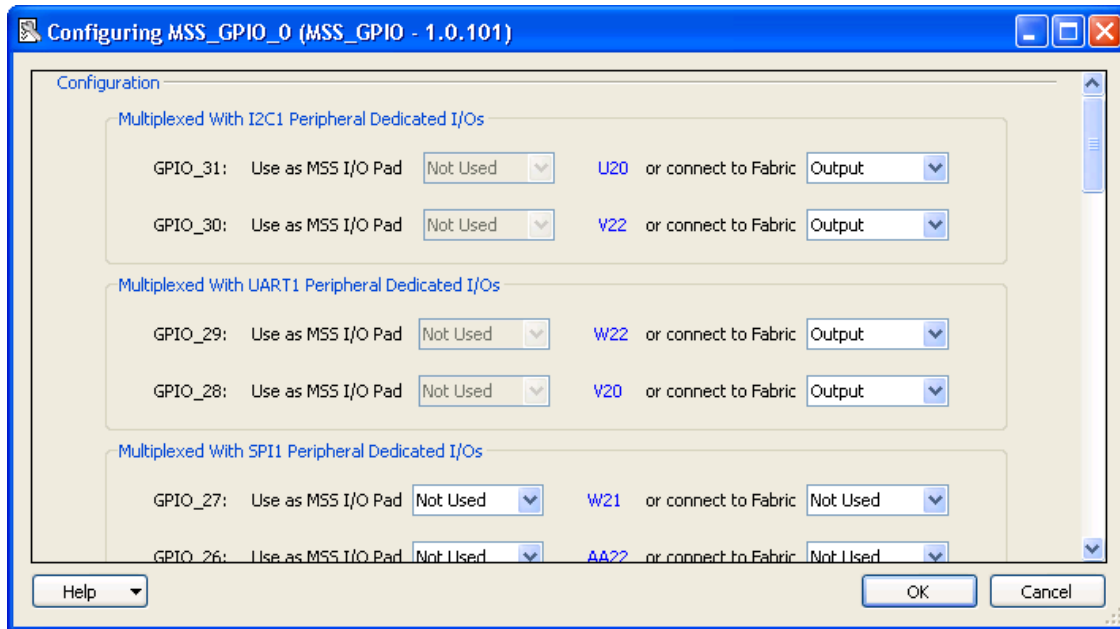

Figure 52 · Configure MSS\_GPIO\_0
1. Double-click the **GPIO block** in the **MSS component**, configure as shown in Figure 52 , and click **OK**.